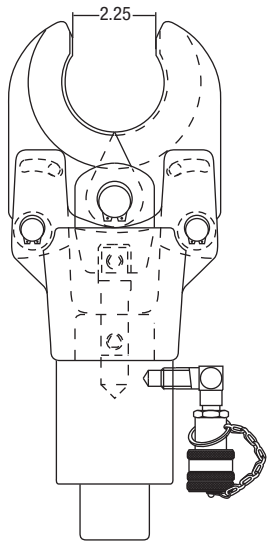

Figure 1
- Turn the 746 clockwise until the jaw opening measures 2.25". See Figure 1.
- Tighten the set screw (30).
8. Insert the shaft (13) into the yoke (2). Turn the shaft clockwise until it is flush with the radius in the yoke.
9. Place a few drops of grade CV Loctite® onto the set screw (9) and tighten the set screw.
10. Insert the yoke pin (4) into the yoke (1).
11. Insert the two pins (10) into the body.
13. Turn the 746 clockwise until the jaw opening measures 2.25". See Figure 1.
14. Apply grade CV Loctite® to the set screw (30) and tighten the set screw.